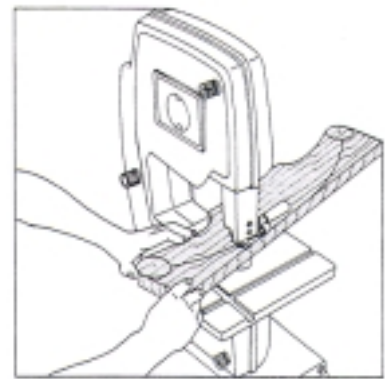

Fig. 2. Using a bandsaw to pad saw rockers to shape.
With your Bandsaw, cut the rockers (H) and canopy support (E) to size and shape, according to the drawings. To make sure both rockers are exactly the same shape, pad saw the two workpieces by double-stick taping them together and sawing both pieces out at the same time (See Fig. 2). Be sure to leave your cutting line intact while cutting.